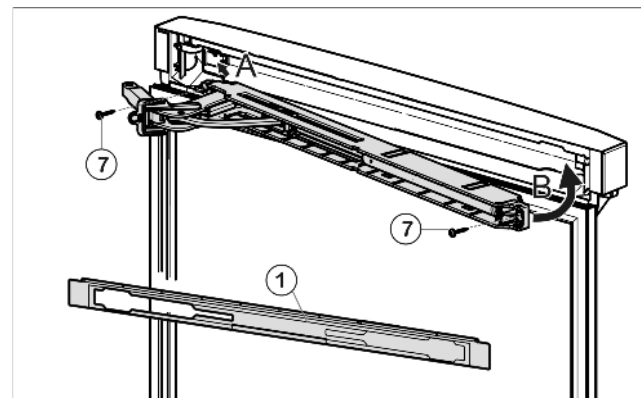

Fig. 56
- With the hinge of the upper soft stop unit facing the door hinge side, engage the soft stop unit (A) and swivel inwards (B).
- Tighten soft stop unit (2 x Torx 15) *Fig. 56 (7)*.